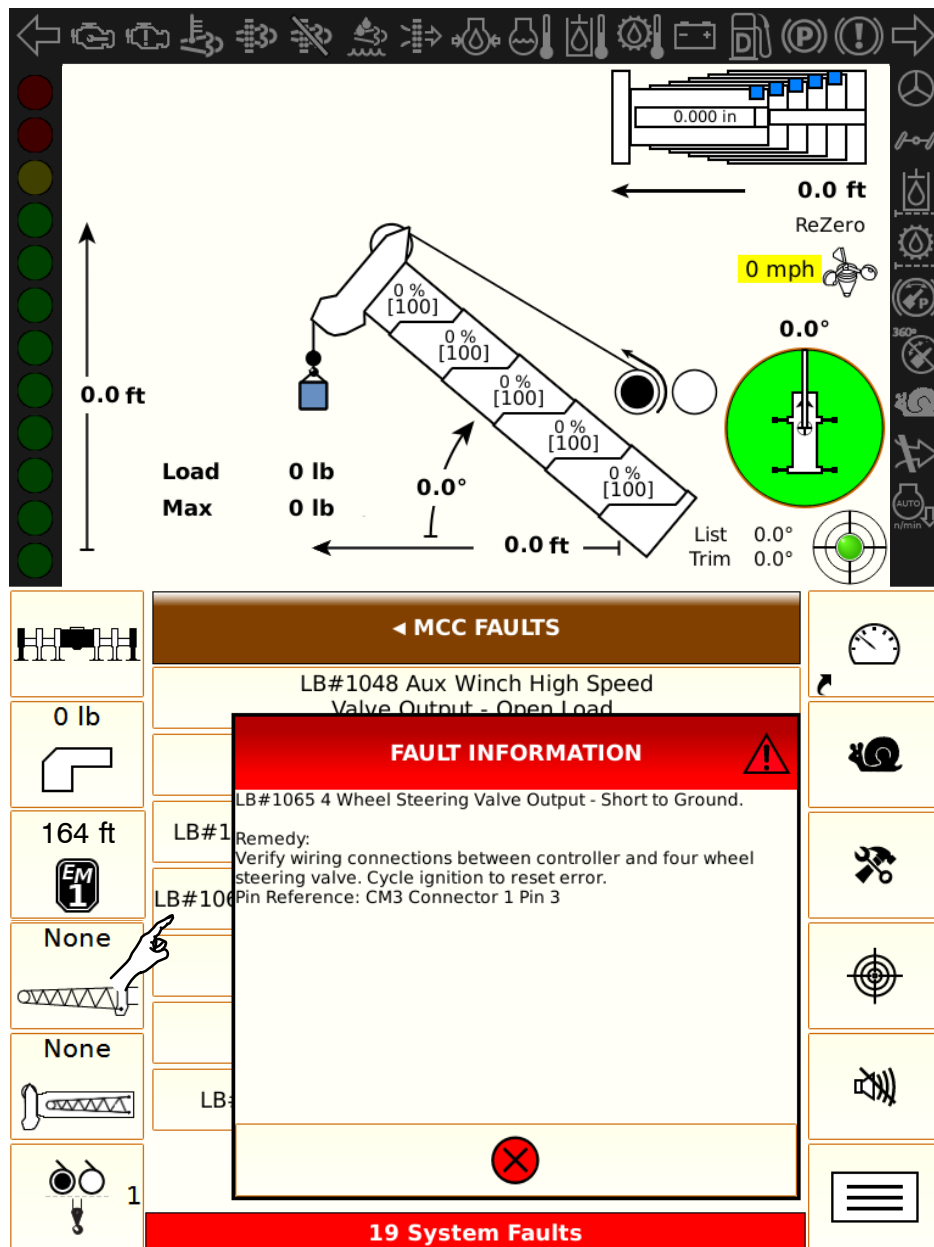

Figure 1–132
6. Press the desired fault message. The Fault Information Screen will appear. The Fault Information Screen includes the meaning of the message, the remedy for the fault, and the pin reference, as applicable. Press the Close Button  to close the Fault Information Screen. Refer to Figure 1–132.